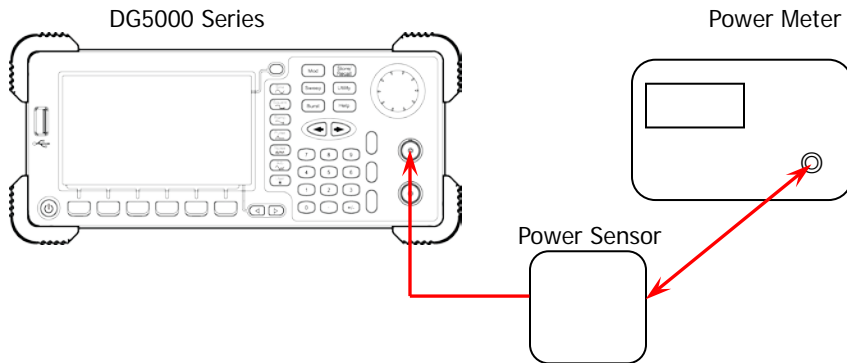

Figure 2-6 Connect DG5000 and the Power Meter
1. Make sure that DG5000 has been warmed up for at least 30 minutes. Connect the power meter and the power sensor; connect the power sensor with the channel output terminal (take CH1 as an example; the calibration method is also applicable to CH2) of DG5000 as shown in Figure 2-6.